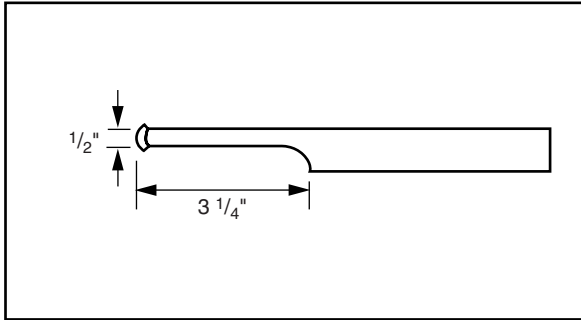

Figure 23.3 The finished tail.
1. The bolt is made from an 8-inch piece of $\frac{1}{4}$ - \times 1-inch square bar. Forge the tail of the bolt first. The finished tail should be $\frac{1}{4}$ \times $\frac{1}{2}$ inch and at least 3 $\frac{1}{4}$ inches long (Fig. 23.3).